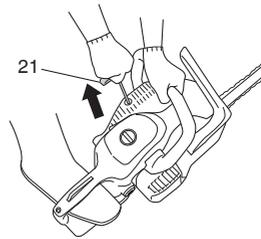

Fig. 17
5. Pull recoil starter (21) rapidly, taking care to keep the handle in your grasp and not allowing the handle to snap back. (Fig. 17)
7. Pull recoil starter (21) rapidly again in the aforementioned manner. (Fig. 17)